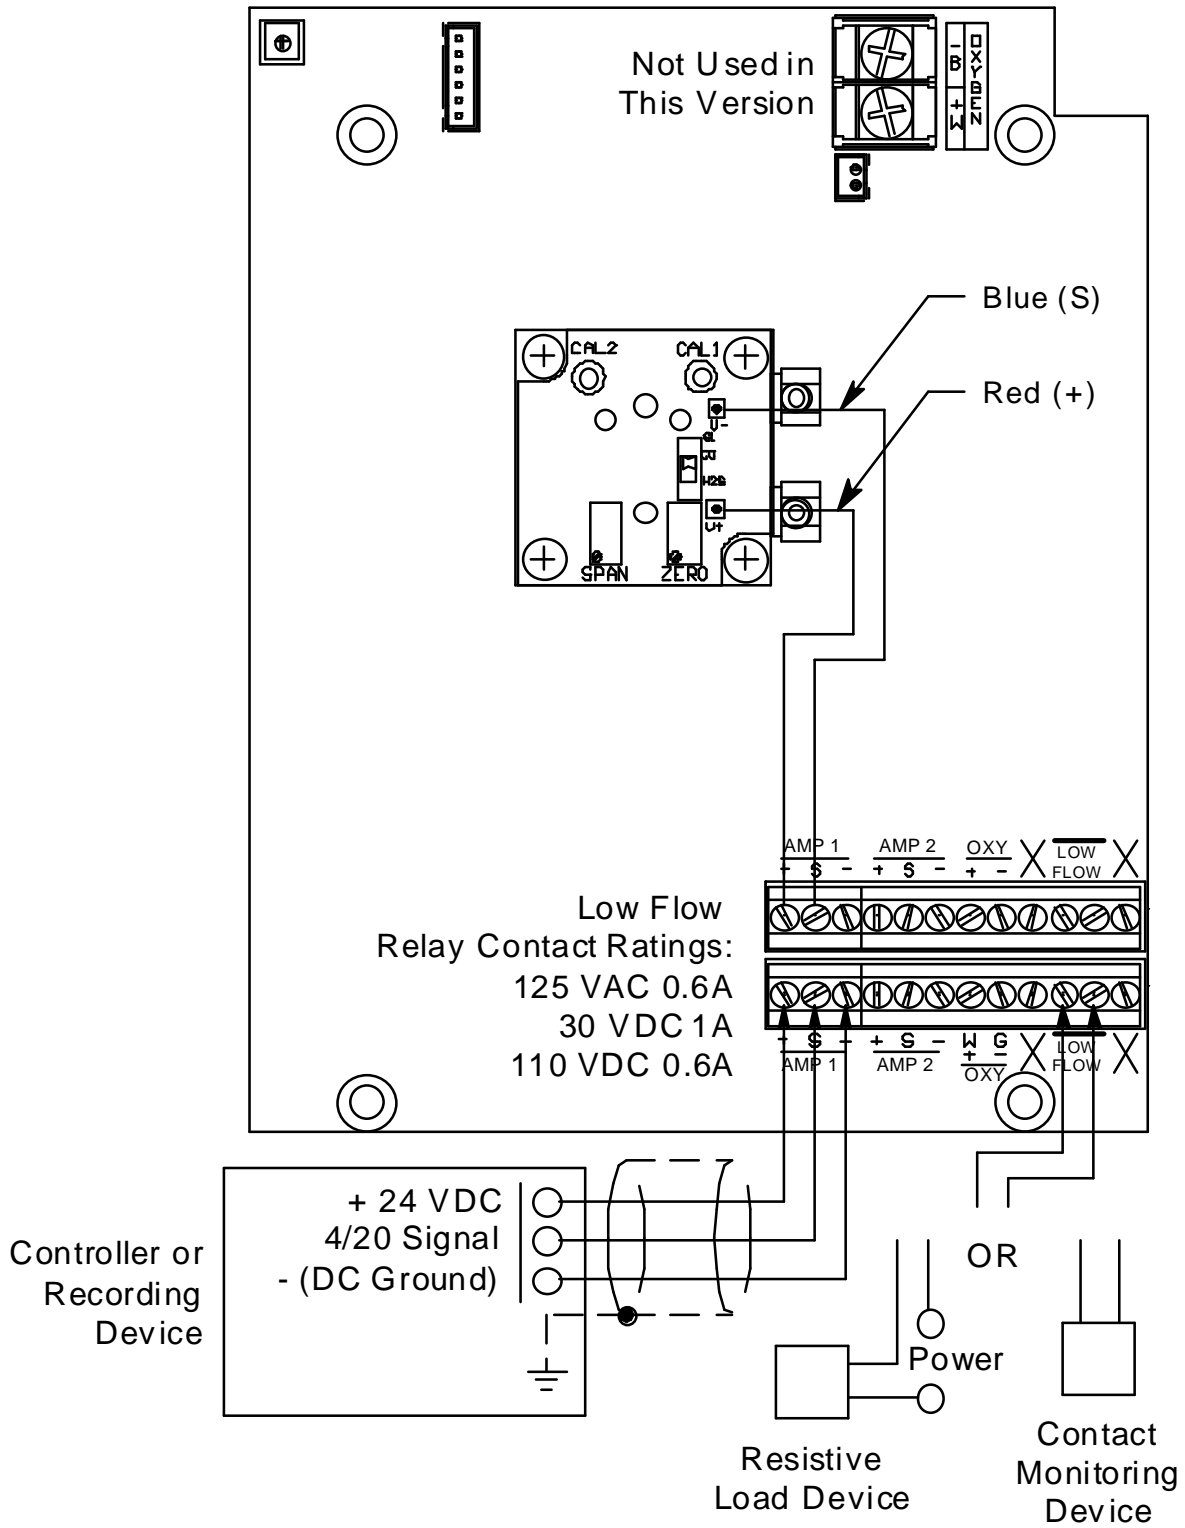

Figure 5: Wiring the Sample-Draw Detector to a Controller
5. Connect the cable to the sample-draw detector’s interconnect terminal strip as shown in Figure 5.
8. Connect the wires to the applicable detector/transmitter terminal strip at the controller as shown in Figure 5. Refer to the controller operator's manual and the controller detector head specification sheet for the 35-3001-04-01 for detector/transmitter terminal strip connections specific to the controller.